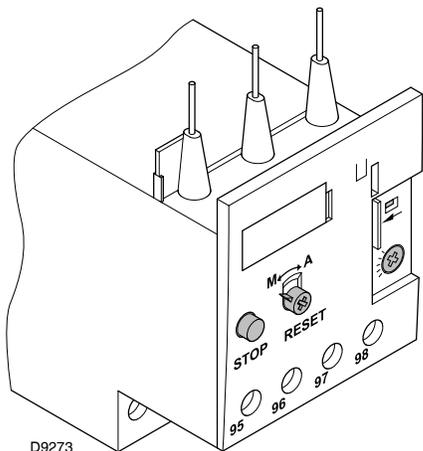

Fig. 23
The electro-mechanical thermal relay (Fig. 23) is used to avoid damage to the motor owing to a strong increase in absorption or the lack of a phase.
- To reset, in the case of an intervention of the thermal relay, press the button "RESET" (Fig. 23).
- The button "STOP" (Fig. 23) opens the NC (95-96) contact and stops the motor.